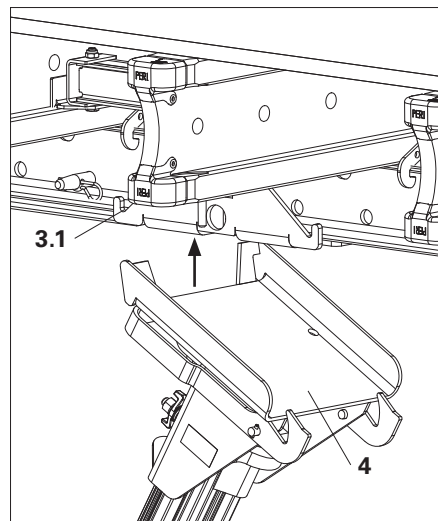

Fig. A2.05a
1. Position textile straps (24) under the slab table (1) and lift.
2. Position slab table (1) on a stable auxiliary construction, e.g. Table Trolley 2 t.
3. According to the pivoting direction, mount MULTIPROP MP (11) with the Table Head Lower Part VD (4) in the lugs (3.1) on the Table Head Centre Part VD (3). (Fig. A2.05a)